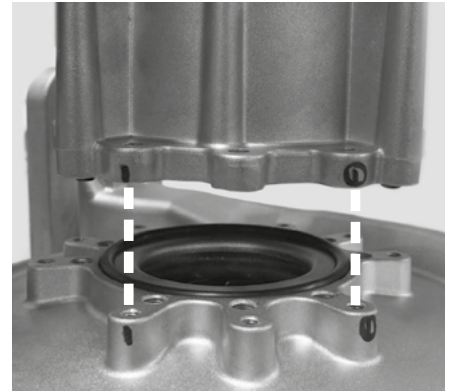

Figure 9 - Proper fan and venturi alignment
16 Install the new fan to the venturi. Reference the orientation mark on the old fan to position the new fan properly as shown in Figure 9. Use the screw hole marks on the venturi to properly install the four (4) screws previously removed in **Step 14**.